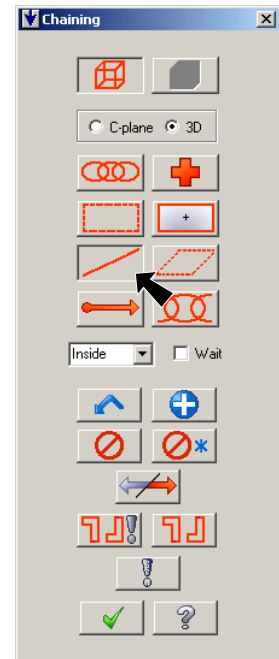

Fig. 25
Step 2. Click **Single**  (S) in Chaining dialog box, **Fig. 25**.
Step 4. Click OK  in the Chain dialog box, **Fig. 25**.